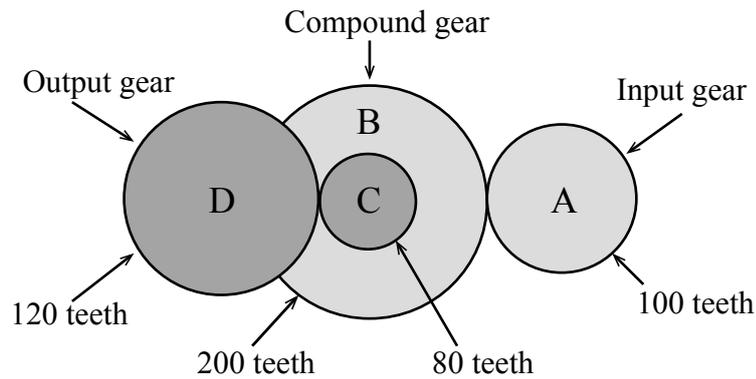

Fig. 2
- 2 (a) Fig. 2 shows a diagram of a compound gear train. The input gear, labelled A, has 100 teeth and the output gear, labelled D, has 120 teeth. The compound gear consists of gears B and C which rotate together on the same shaft. Gear B has 200 teeth and gear C has 80 teeth.